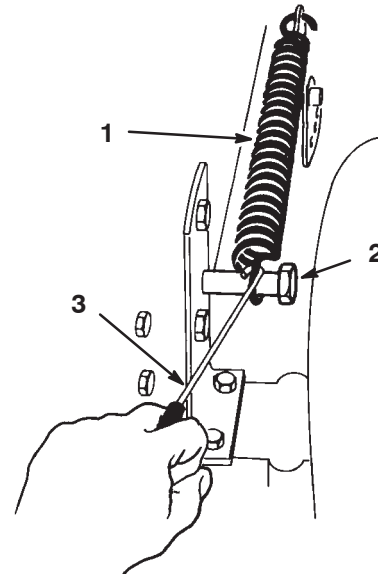

Figure 46
15. Hook the lift assist spring between the mower right side lift bracket and the retaining bolt (Fig. 46).